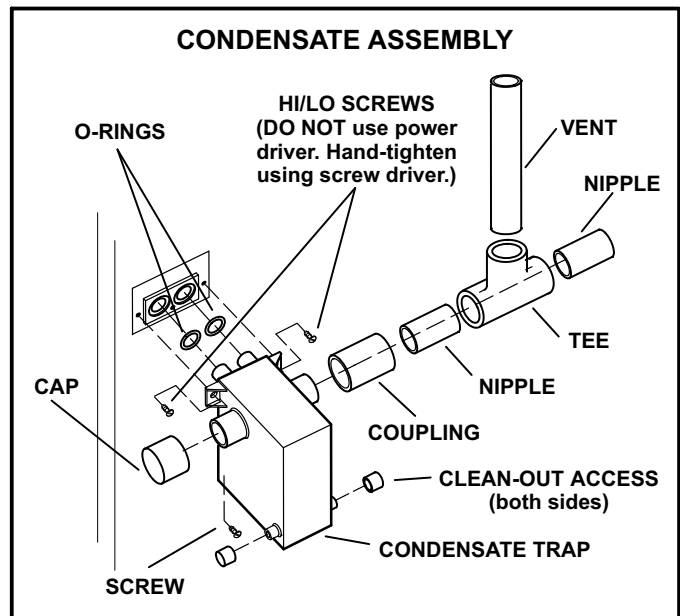

FIGURE 29
- 2 - Install condensate trap onto the condensate collar. Use provided HI/LO screws to secure two upper flanges of the trap to the collar. Use provided sheet metal screw to secure bottom trap flange to side of unit. See figure 29.